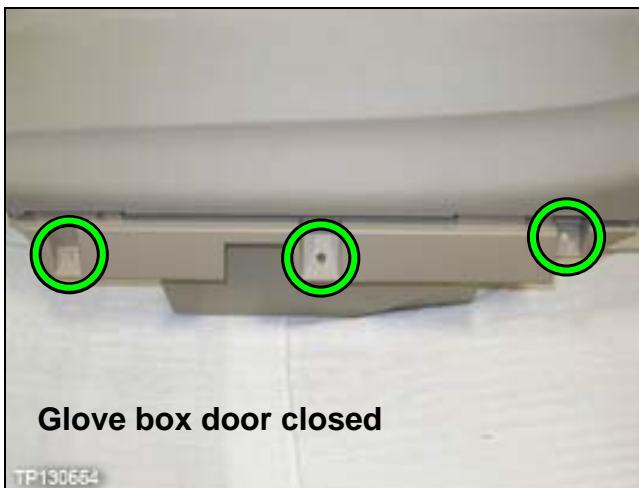

Figure 50
- a. Remove eight (8) screws. See Figure 50 and 51.